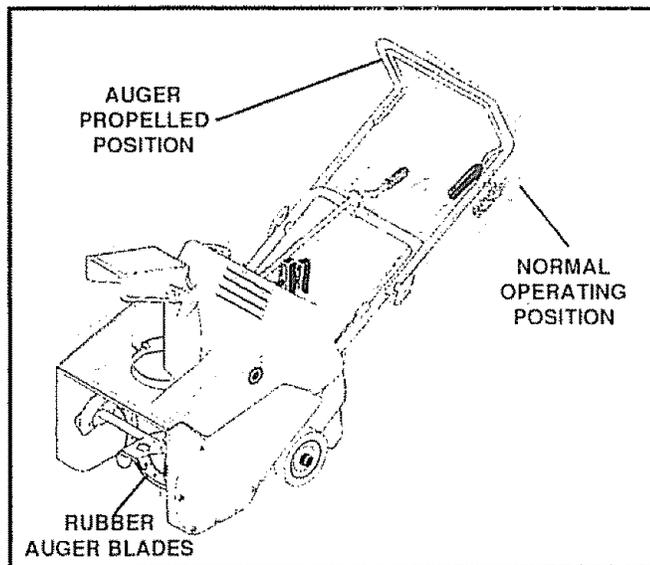

FIG. 6
- To propel forward, raise the handle to allow the rubber auger blades to contact the ground (See Fig 6)